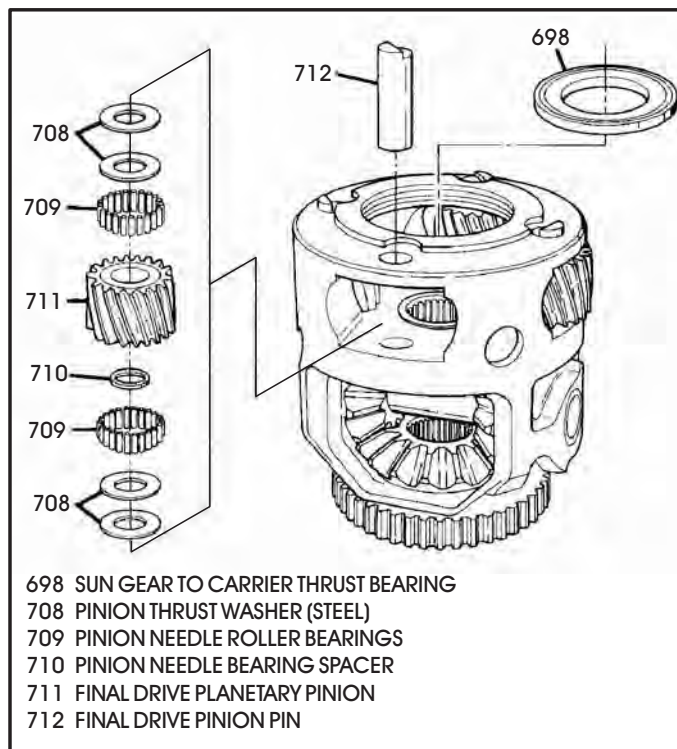

Figure 79
3. Remove planet pinion pin, pinion gear, pinion needle roller bearings, thrust washers and the spacer, as shown in Figures 79 and 80.
4. Remove the sun gear to carrier thrust bearing as shown in Figure 79.